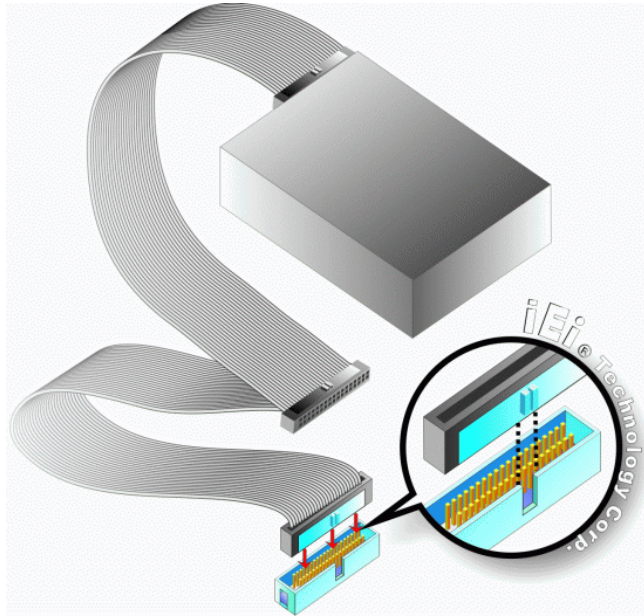

Figure 5-15: IDE Cable Connection
Step 2: Insert the connector. Connect the IDE cable connector to the onboard connector. See Figure 5-15. A key on the front of the cable connector ensures it can only be inserted in one direction.